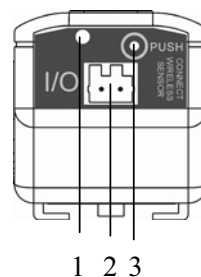

Fig. 1 Wireless sensor operator panel
The control key, see Figure 1 (3), on the wireless sensor must be pressed 1 second to place the system in registration mode.
"OK" will be signalled for the NC function when a voltage between 10 V and 30 V is present at the terminal, see Figure 1 (2).
If no voltage is present at the terminal, see Figure 1 (2), the system will signal "Alarm".
If the digital input 7320.585 is to be operated in the NO mode, the sensor must be reprogrammed. The key on the wireless sensor, see Figure 1 (3), must be pressed for two seconds. This changes the function. The change is represented as a sensor change in the Wireless I/O-Unit and must be acknowledged on the Processing Unit II.
An alarm will be signalled for the NO function when a voltage between 10 V and 30 V is present at the terminal, see Figure 1 (2).
If no voltage is present at the terminal, Figure 1 (2), the system signals "OK".
1. Press the key, see Figure 1 (3), 1 second
2. Press the key, see Figure 1 (3), several times to select the digits 1 to 5
To reset a wireless sensor to its factory settings, the key, see Figure 1 (3), on the wireless sensor must be pressed continually for five seconds until the sensor LED flashes continually. The key can then be released.